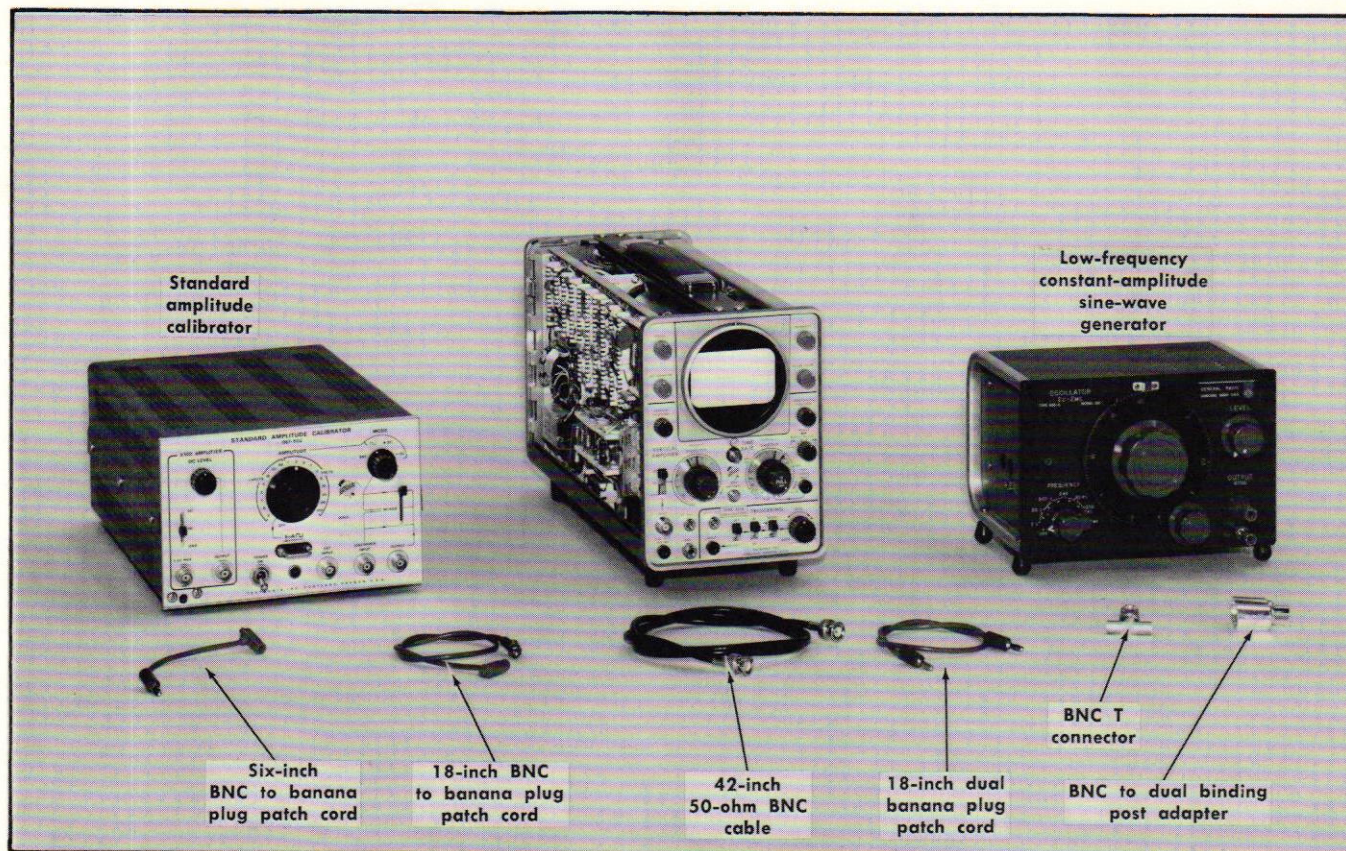

Fig. 5-19. Equipment required for steps 37 through 39.
a. Equipment required for steps 37 through 39 is shown in Fig. 5-19.